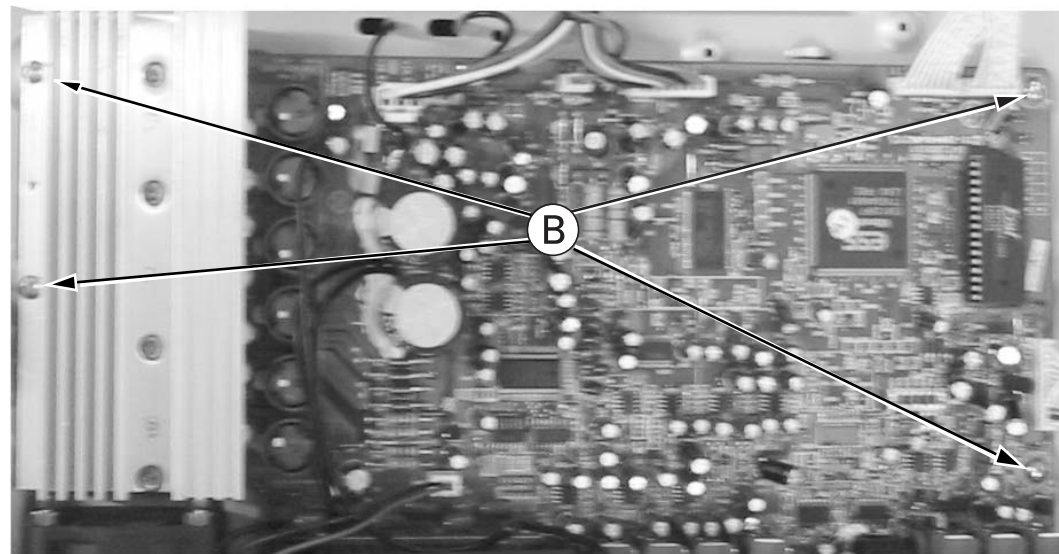

Figure 3
- 1) Loosen 4 screws "B" on the top of main board as shown in figure3.